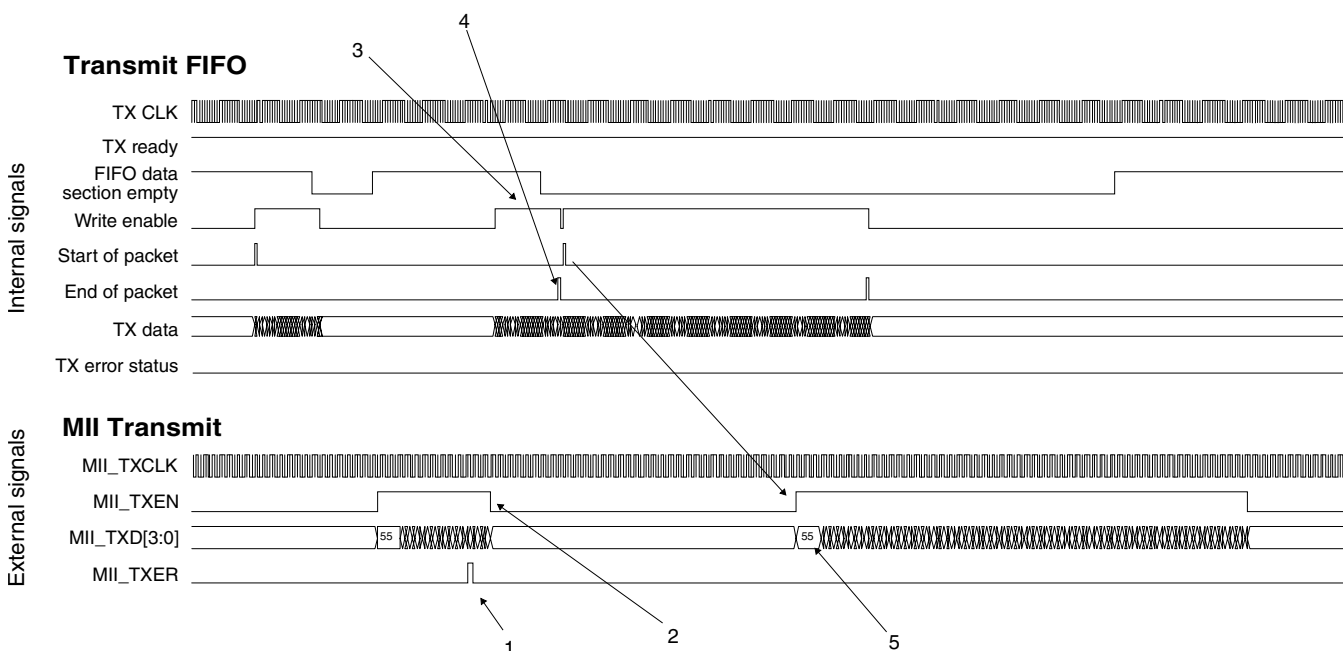

Figure 50-16. Transmit FIFO underflow protection
- Asserts the MII error signal (MII_TXER) (1 in Figure 50-16) to indicate that the fragment already transferred is not valid
- Deasserts the MII transmit enable signal (MII_TXEN) to terminate the frame transfer (2)